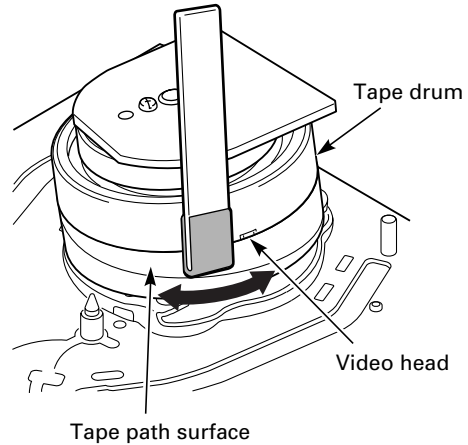

Fig. 2.1
**2.1 Cleaning the Tape Drum (Fig. 2.1)**